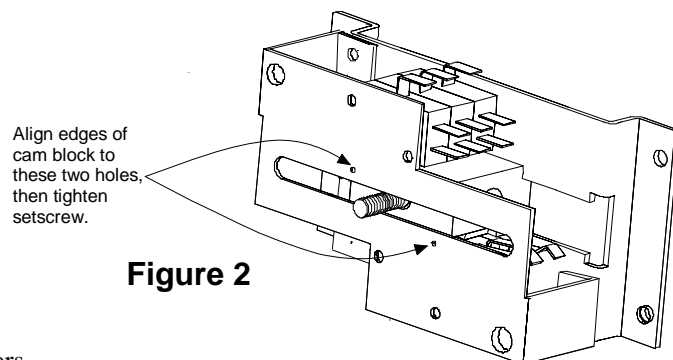

Figure 2
9. Remove cam from old limit switch assembly, and insert the cam between the switches of the new assembly as shown in Figure 2 below.
13. Center the cam between the two sets of switches, then tighten set-screw to 80 in. lbs. (See Figure 2 below.)